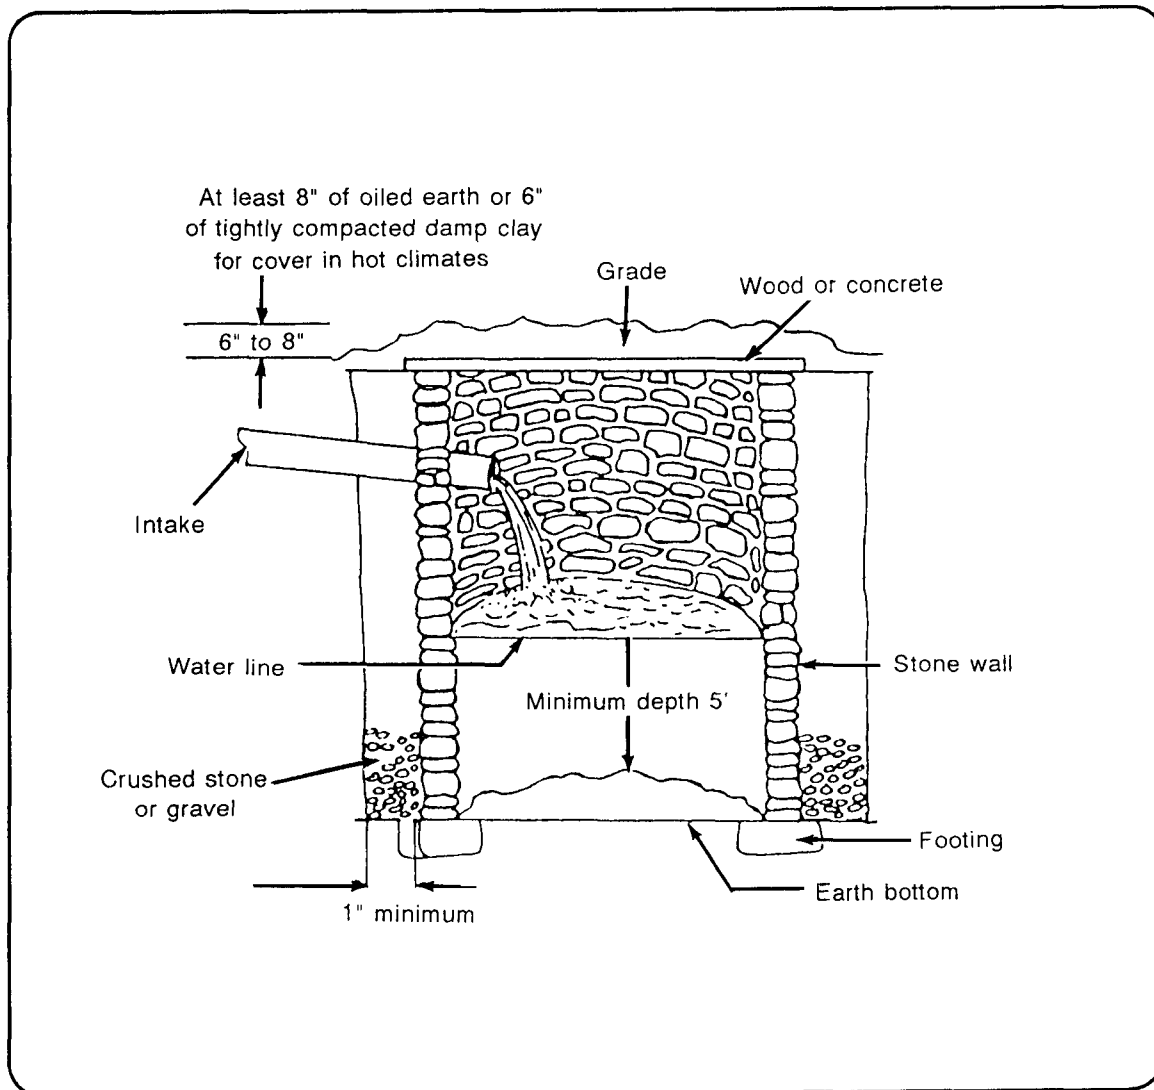

Figure 1-12. Design for a leaching tank
b. *Leaching Tanks.* Leaching tanks, cesspools, receive raw sewage or septic tank overflow. They can be made of 4- x 4-inch lumber or 5-inch round timber. Dry masonry may be used for wall construction when time and materials permit. Figure 1-12 shows the design for a small leaching tank.